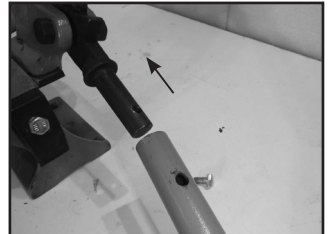
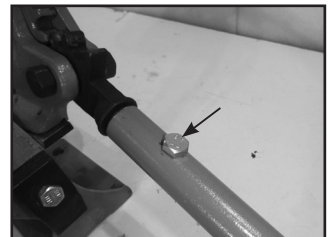

Fig 2
Fig 3
3. Slide the Handle (9) over the shaft of the Geared Handle (1) (Fig 2) and tighten locking Bolt (11) using a 14mm spanner (not supplied) (Fig 3).